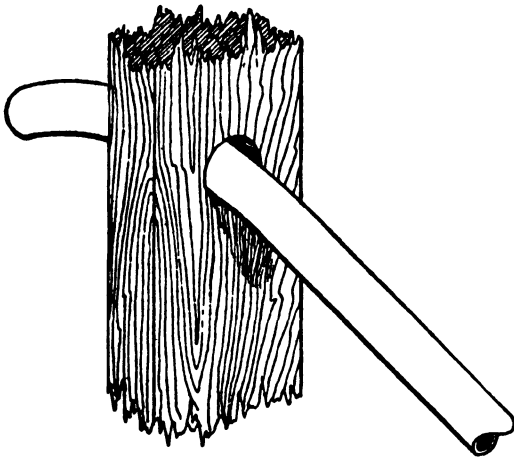

FIG. 52
3. A very effective and convenient method is to fasten up a heavy board or plank and bore a hole in it about $\frac{1}{4}$ " larger in diameter than the pipe. Slip the pipe thru the hole and bend slightly. Shift the pipe forward or backward as the bending is continued in order to secure the desired curve. Fig. 52. Fig. 53 shows another pipe bending device.